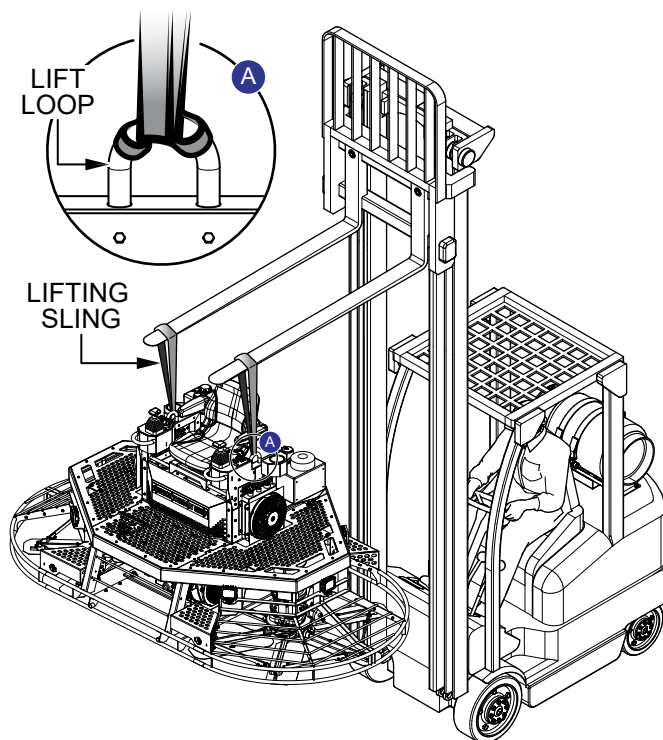
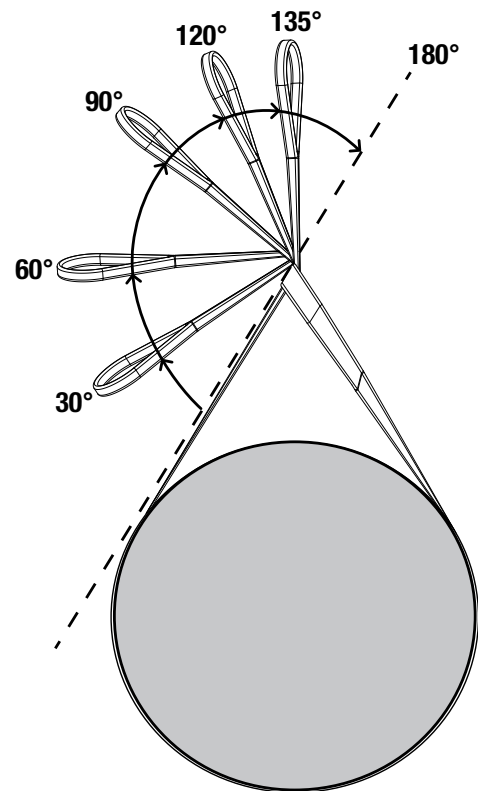

Figure 2. Lifting The Trowel
Figure 3. Choke Angle
1. Secure the **two lifting slings** (P/N 52078) to the **lift loops** located on the left and right side of the trowel (Figure 2).
2. Insert forklift forks through the loops at the ends of the lifting slings (Figure 2). Keep the slings as close to vertical as possible. If the **choke angle** (Figure 3) is 120 degrees or less, the lifting strength of the slings must be de-rated as shown in Table 2, in accordance with ASME Standard B30.9.